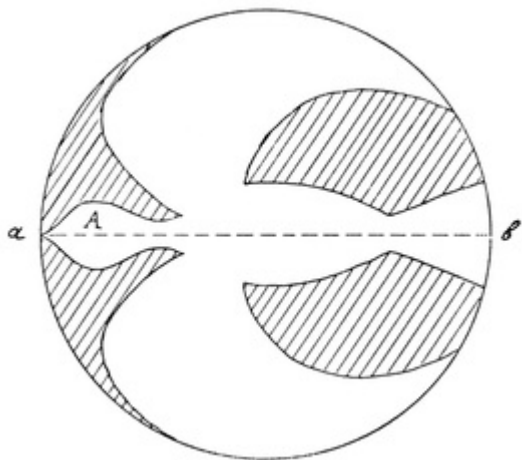
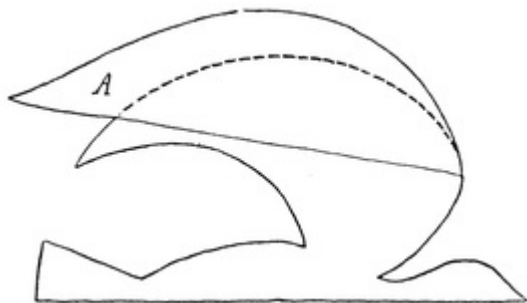

FIG. 476
FIG. 477
In making one's first glider one cannot do better than copy a bird. On a piece of paper draw a circle, fold it in half, draw a bird on one half, as in Fig. 476, cut it
(2) If the head in Fig. 476 is not long enough for a graceful flight, a longer head cut from cardboard can be pasted on.
(3) If the bird dives quickly down head first, you know that the head is too heavy, or the neck too long.
(4) If the bird rises and then falls the head is too light and probably not long enough.
(5) The wings can be made larger if necessary by the addition of tissue-paper wings gummed on as A in Fig. 477.